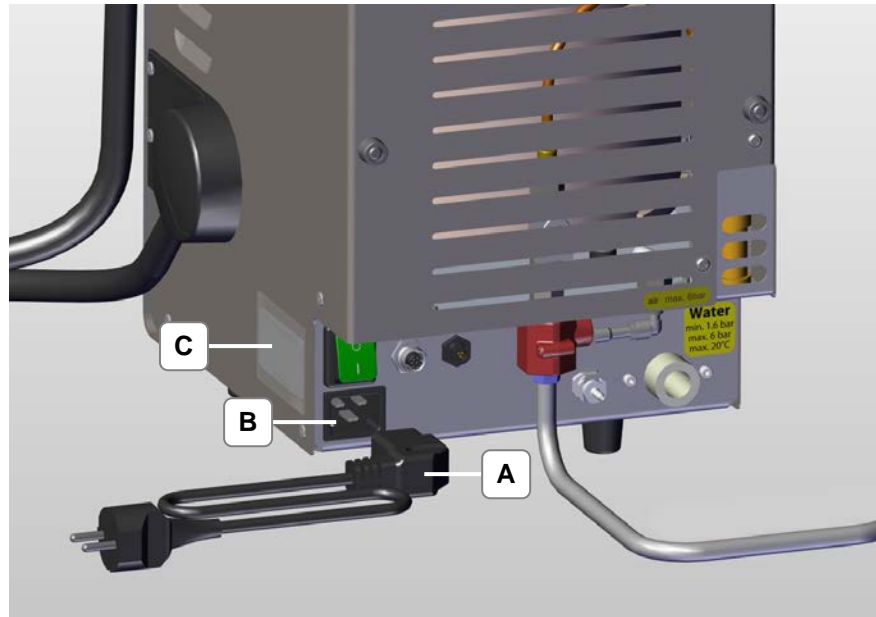

Figure 4.1.1: Mains Supply Cable
<p>Assembling the Mains Supply Plug</p> <ul style="list-style-type: none"> • Observe the technical data on the nameplate (Figure 4.1.1-C)! Make sure that the electrical plug socket has the same voltage as that indicated on the nameplate. • The plug socket for the mains supply cable must be easily accessible. In an emergency, pull the mains plug out of the plug socket! • Inspect the mains supply cable for damage before using it. A damaged mains supply cable must not be used!
1. Connect the mains supply cable (Figure 4.1.1-A) to the connector (Figure 4.1.1-B).